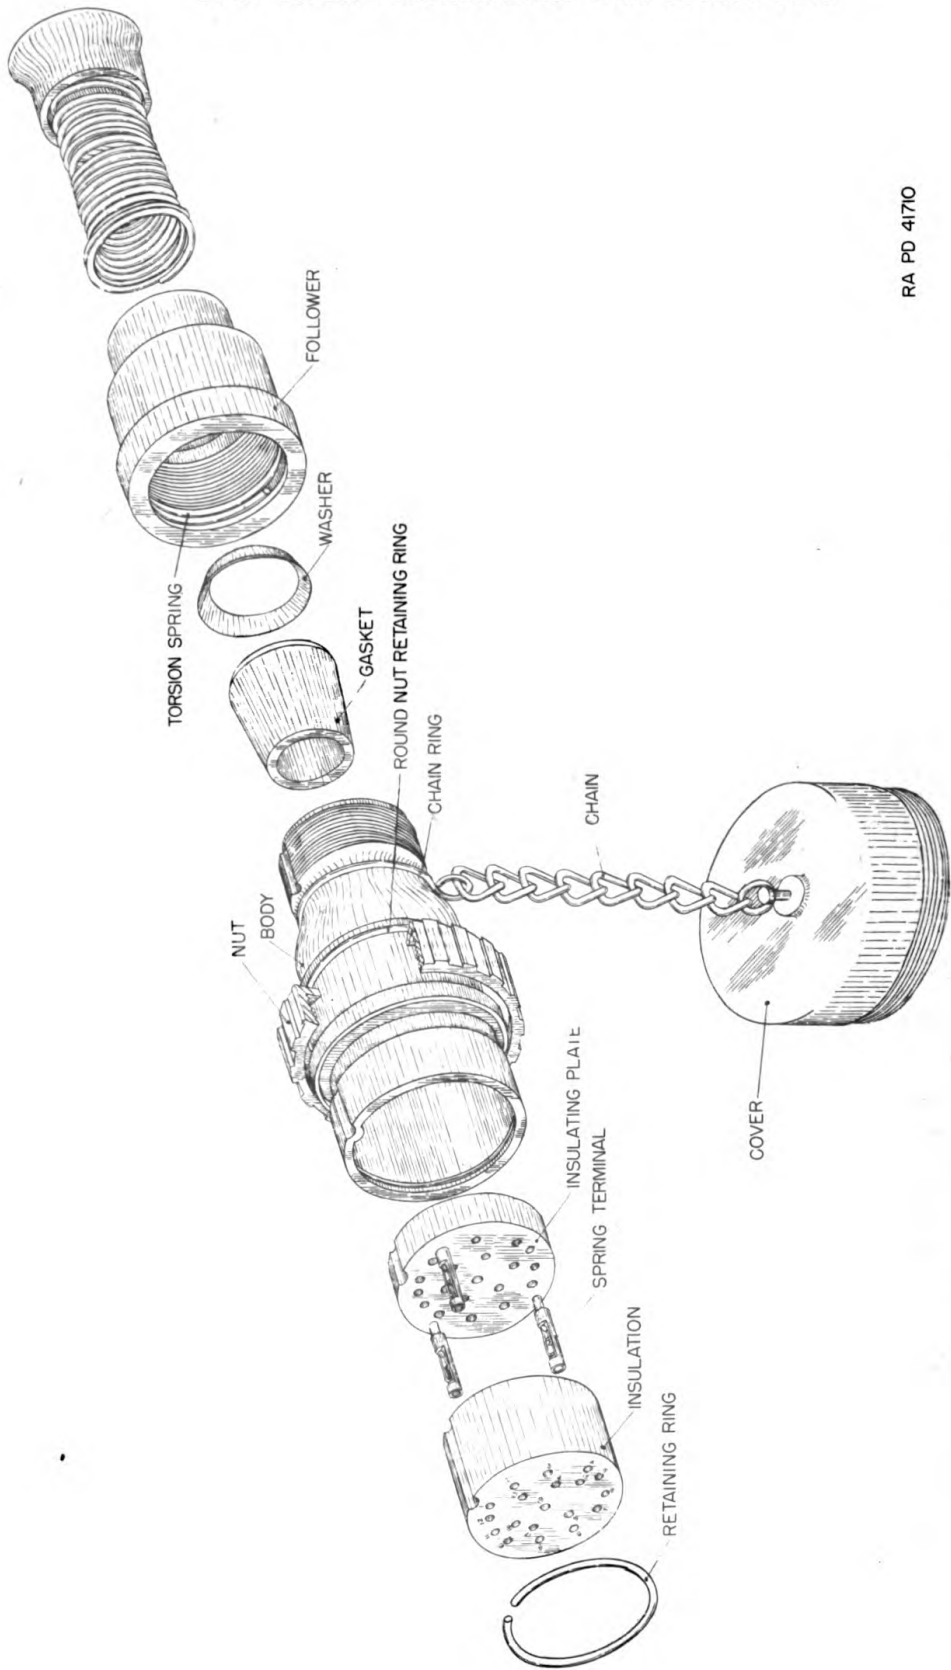

Figure 54 — Exploded View Showing Disassembly of Plug
a. Disassembly and Assembly of Plug Assembly (fig. 54).
(1) Open the plug cover to expose the spring terminal openings.
(2) Using a thin-bladed screwdriver, pry one end of the split retaining ring out of the body groove. Continue working from this end until the entire ring is free for removal from the groove.
(3) When the split retaining ring has been removed, the insulation, the spring terminals, and the spring terminal insulating plate can be lifted out in the order shown.
(4) Should it be necessary to increase the slack in the wires to the spring terminals, loosen the follower and push the cable through the gasket. The follower will turn quite hard when being loosened, because the torsion spring will expand against the groove in the follower and exert considerable friction against loosening.
(6) To reassemble the plug, slip each spring terminal into its hole in the plate and then place the insulation over the group of terminals, keeping the edge locating slots in the plate and insulation in line with each other. Fit this compact group into the plug body. The locating slots line up with the pressed key in the body. Work the split retaining ring back into its groove in the body. Tighten the follower.
(7) Additional disassembly and assembly operations, involving removal of parts shown in figure 54 may be performed if required.